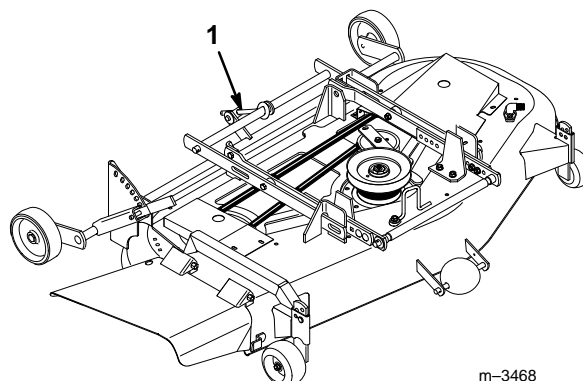

Figure 17
4. Front-to-rear adjustment is made by turning the adjusting nut (Fig. 17) on the back of the mower. To raise the front of the mower, turn the adjustment nut clockwise. To lower the front of the mower, turn the nut counterclockwise.